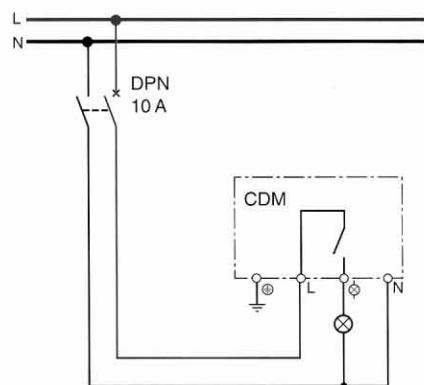

fig. 2
- diagram (fig. 2): the CDM monitors and controls lighting of a sector